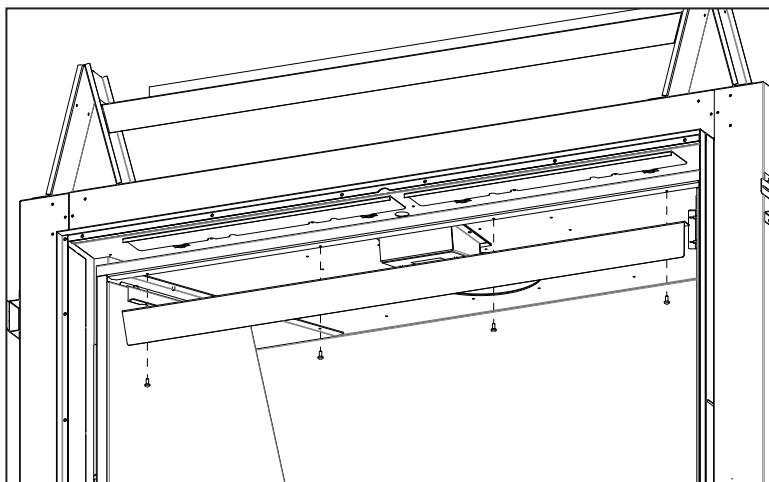

Figure 76: Light Deflector Removal
Step 2. Remove light deflector by removing the four (4) retaining T-20 screws (see Figure 76).